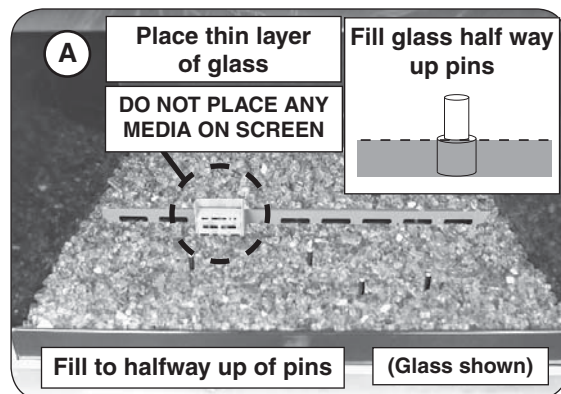

Fig. 29-1 Install media - **glass w/ stones**
2. Pour a thin layer of the glass media (glass/gems) evenly into the burner area. Only place a portion of the media, approximately halfway up the positioning pins. See Fig. 29-1.